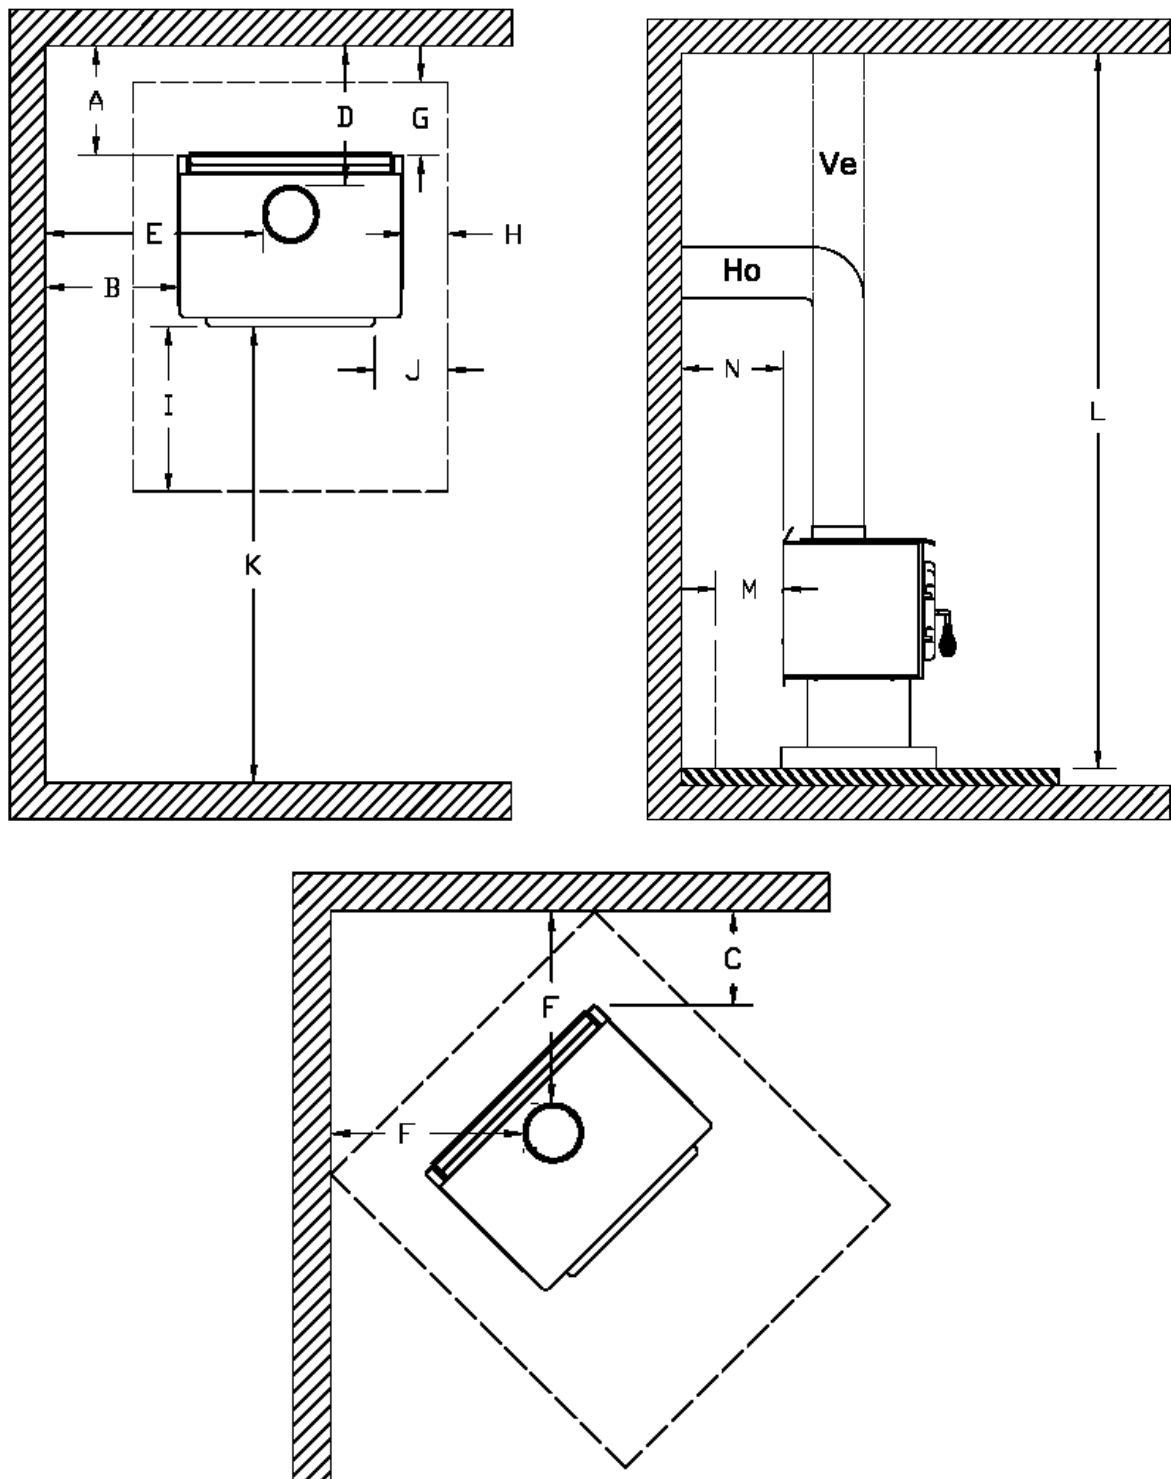

FIGURE 1.1 Clearances to combustibles and floor protection
(see Figure 1.1 to match each letter to a clearance)
If the stove is to be installed on top of a combustible floor, it must be guarded by a non combustible material as shown on Figure 1.1 (see the dotted line area).
2. Mark the location for the floor protection[‡] (if required) as noted in Figure 1.1.
If the stove is to be installed on top of a combustible floor it must be guarded by a non-combustible material extending beneath the heater and to the front and sides as indicated in Figure 1.1, or to the nearest permitted combustible material. Floor protection must extend beneath, and 2" (51 mm) to the sides of a horizontal connector if one has been used.